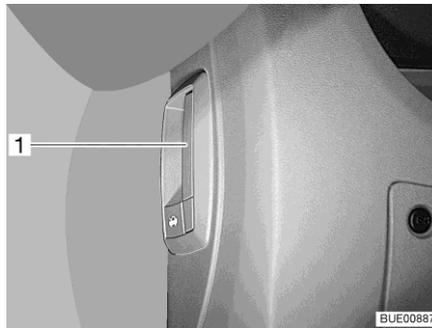

Fig. 50 Release lever for the bonnet (inside the vehicle)
- Pull the lever (Fig. 50,1) on the left under the dashboard or next to it.